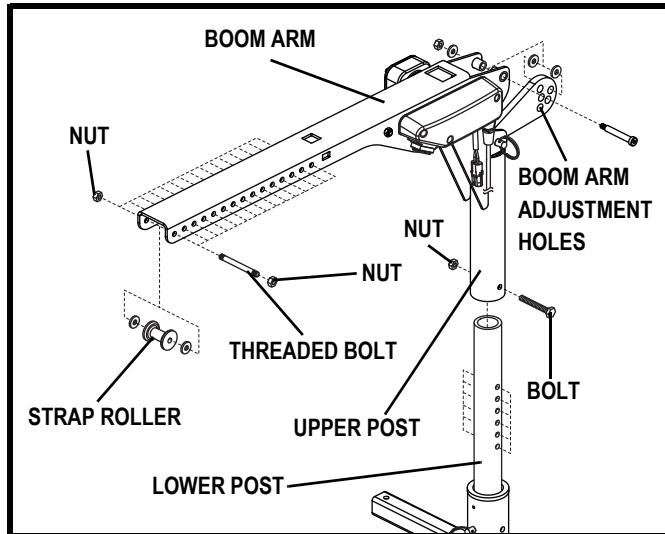

Figure 1. Upper Post Adjustment
The boom-arm can be adjusted for your convenience. See **figure 1**.
1. Remove the nut and bolt from the upper post. See **figure 1**.
1. Remove the nuts from the threaded bolt that secure the strap to the boom arm. See **figure 1**.
2. Roll the strap to the desired position, aligning the strap roller with the desired adjustment hole in the boom arm. See **figure 1**.
NOTE: The angle of the boom arm can be adjusted to accommodate certain height limitations. See **figure 1**.